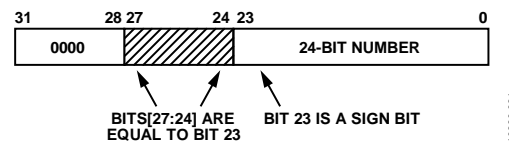

Figure 47. ZPSE Communication Format
The ADE7816 includes 8-, 16-, and 32-bit, signed and unsigned registers. All signed registers are in twos complement format. Some of the internal measurements are 24 bits long and have been extended to 32 bits prior to communication. This extension is accomplished in three different ways: sign extending (SE), zero padding (ZP), or zero padded and sign extended (ZPSE). When sign extending is used, the sign bit (Bit 23) of the twos complement signed number is duplicated in the uppermost byte prior to communication. Zero padding is achieved by writing 0s into the upper most byte prior to transmission. This format is used for unsigned numbers only. Zero padded and sign extended formats are shown in Figure 47 and involve padding the most significant bits with 0s and sign extending Bits[27:24].